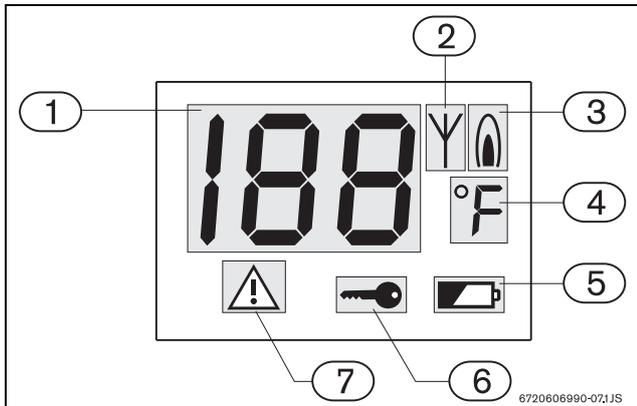

Fig. 9 Multifunctional LCD
This device has an error message system. Any errors that the heater generates will be indicated by an error code that will appear on the display (Fig. 9, pos. 1) and by a symbol indicating a "safety block" (Fig. 9, pos. 7). The remote control will be operative only after pressing the reset button on the heater and clearing the error. To identify the type of error or if the error will not clear, consult the heater installation manual.
When batteries are weak, the low battery symbol (Fig. 9, pos. 5) will appear on the display.